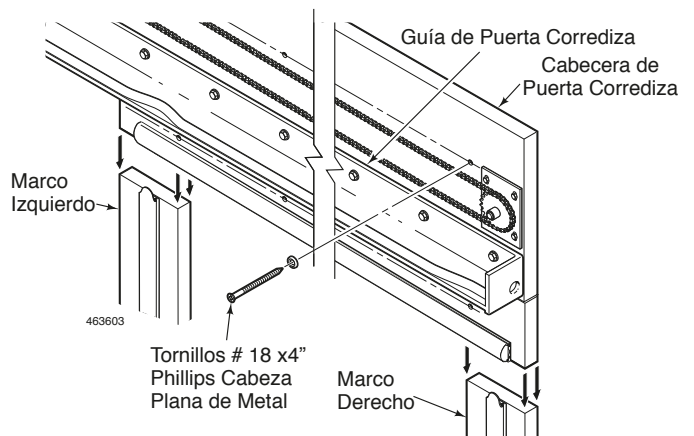

Figure 3
5. Mount the Sliding Door Track and Header assembly above the door frame. See *Figure 3*. For a single door, mount the end of the Track flush with the edge of the side frame. For a bi-parting door, the center stops on the Door Track should be centered above the door opening. In all cases, anchor the Door Header with the with the fasteners that are provided.